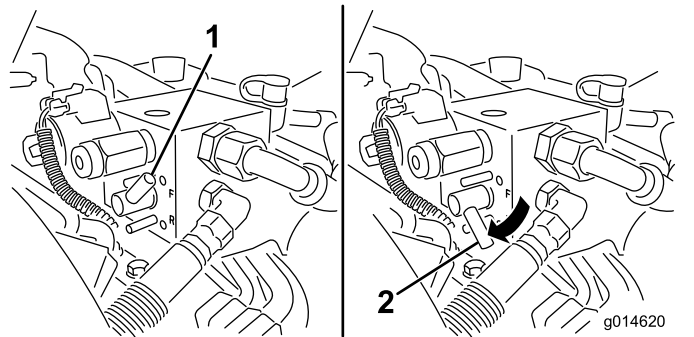

Figure 55
5. Rotate the backlap lever to the Reverse (R) position (Figure 55).